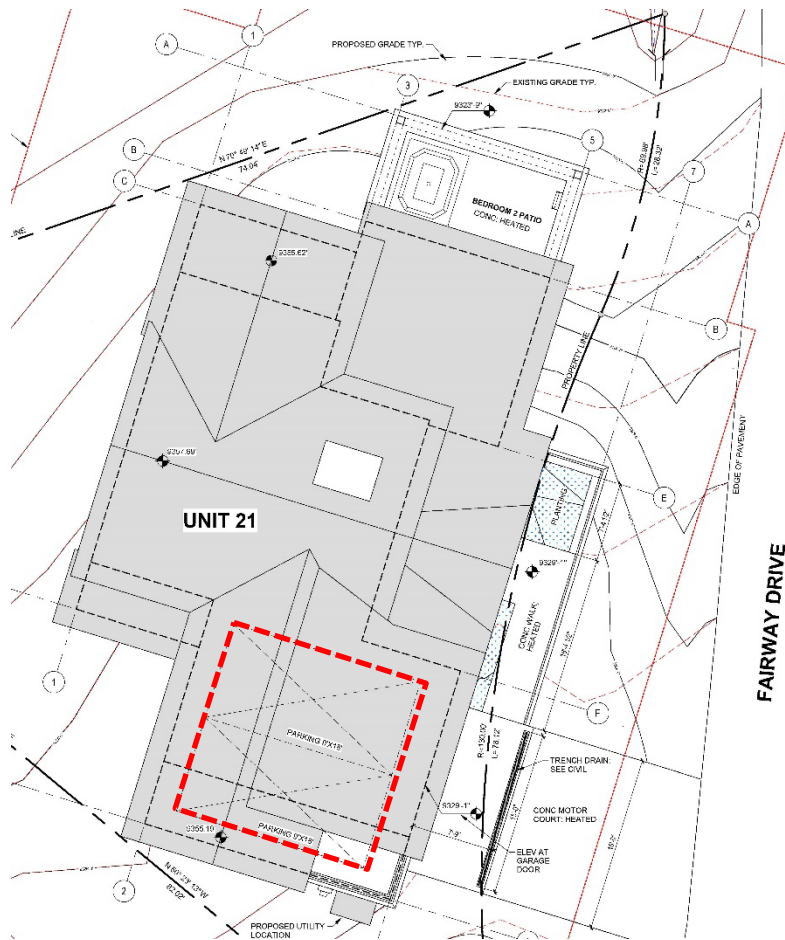

Figure 4: Site Plan – Proposed Parking
Staff: The proposed design includes two (2) internal parking spaces located in the garage (see Figure 4). Section 17.5.8 of the CDC requires a minimum of two (2) parking spaces for all units located in a Single-family common interest community, which is the official designation of the Knoll Estates subdivision. This design meets the requirements of the CDC.